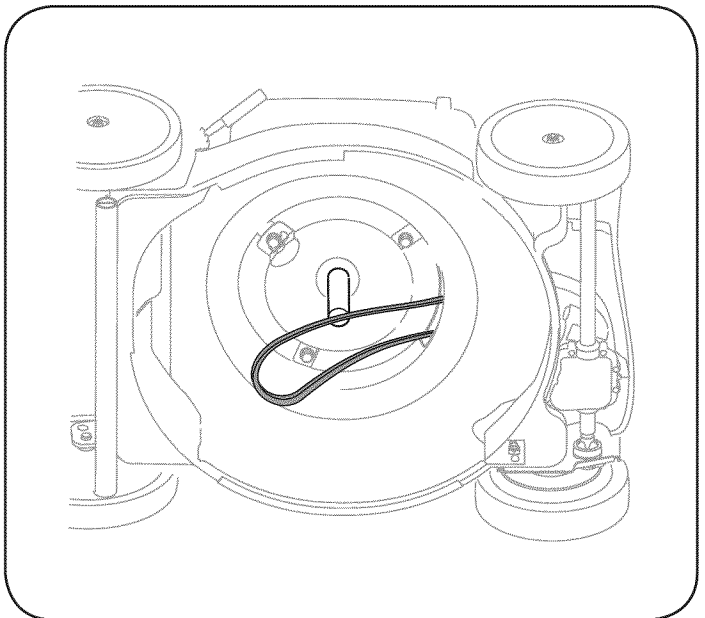

Figure 20
5. Slide belt off of engine pulley and thread through the opening in the deck. See Figure 20.